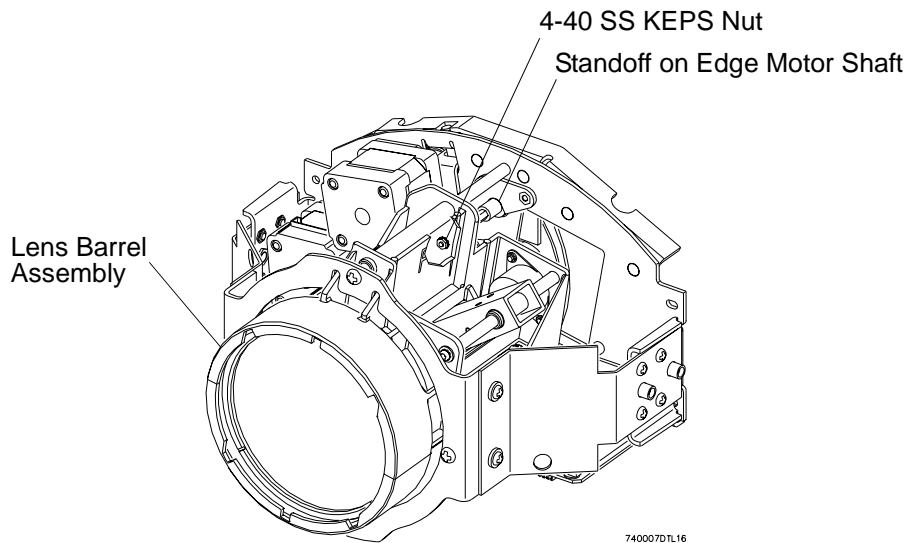

Figure 2-12: Removing Nut From Edge Motor Assembly Shaft
Step 5. At lens barrel assembly, use pliers to hold standoff on edge motor shaft, and using 1/4" open-ended wrench, remove 4-40 SS KEPS nut from end of motor shaft. **Figure 2-12.**
- Step 5. At lens barrel assembly, use pliers to hold standoff on edge motor shaft, and using 1/4" open-ended wrench, remove 4-40 SS KEPS nut from end of motor shaft. **Figure 2-12.**